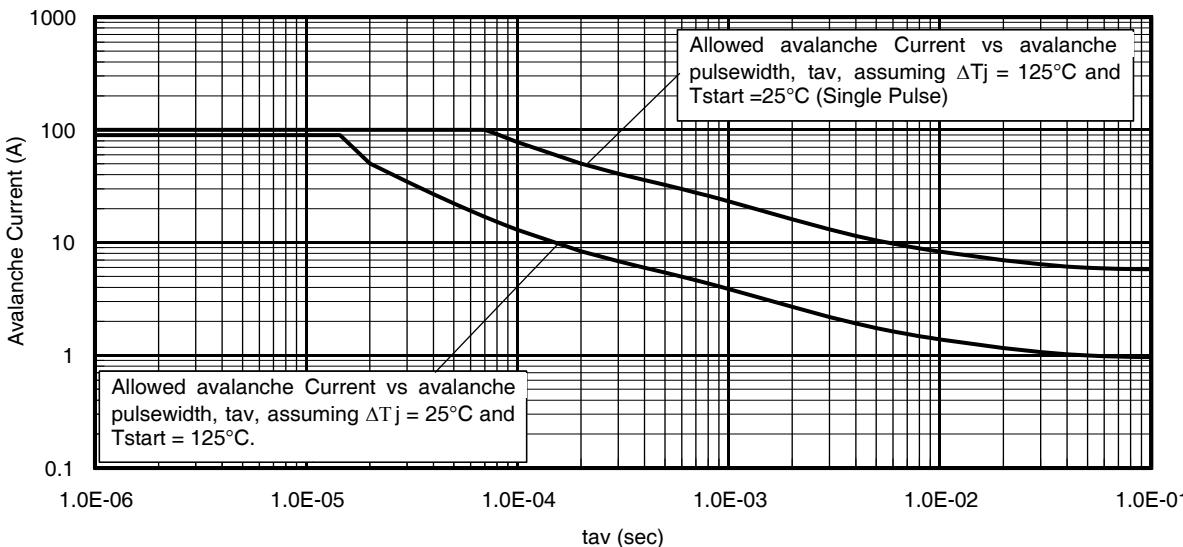

Fig 15. Avalanche Current vs. Pulse Width
Notes on Repetitive Avalanche Curves , Figures 15, 16: (For further info, see AN-1005 at www.irf.com)
7. ΔT = Allowable rise in junction temperature, not to exceed T_{jmax} (assumed as 25°C in Figure 15, 16).